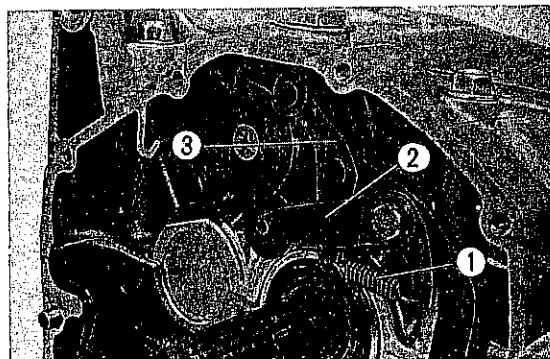

Fig. 132 ① Shift drum stopper spring
- Attach the shift drum stopper spring to the drum stopper and the drum neutral stopper as shown in Fig. 132. Tighten the drum stop bolt and neutral stop bolt. Tighten the bearing set plate together.